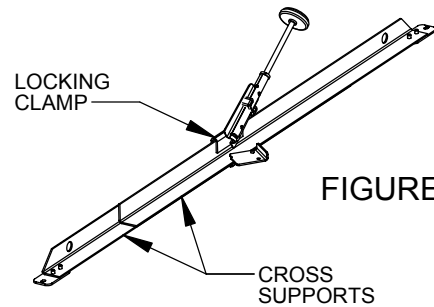
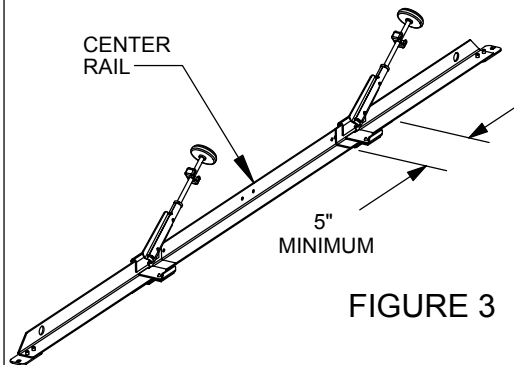

FIGURE 2
FIGURE 3
Step 2. For the EL1: Slide CROSS SUPPORTS through LOCKING CLAMP so they overlap. The LOCKING CLAMP should be centered on overlap. See Figure 2. For the EL2: The CENTER RAIL should be placed between the CROSS SUPPORTS and overlap on the outside of the CROSS SUPPORT. The LOCKING CLAMP should be attached as stated above. See Figure 3. *Note: There should be a minimum of 5" overlap on either model.*